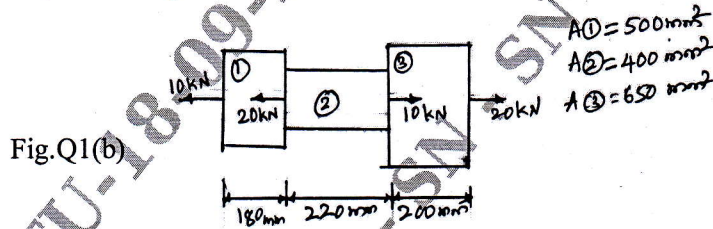

Fig.Q1(b)
b. A stepped bar shown in fig. Q1(b) is subjected to forces. Determine i) Stress induced in each portion and ii) Net Deformation. Take $E = 200\text{GPa}$. (12 Marks)